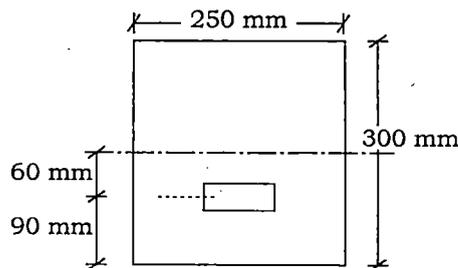

Fig. 7
- (b) A pre-stressed concrete beam section is $250 \text{ mm} \times 300 \text{ mm}$ as shown in Fig. 7. The initial pre-stressing force is 450 kN at an eccentricity of 60 mm. The beam has a span of 5.75 m and has to carry a superimposed load of 7.5 kN/m . Analyze the beam section for the stresses produced at the mid-span before and after the application of load. Allow a loss of 15% :